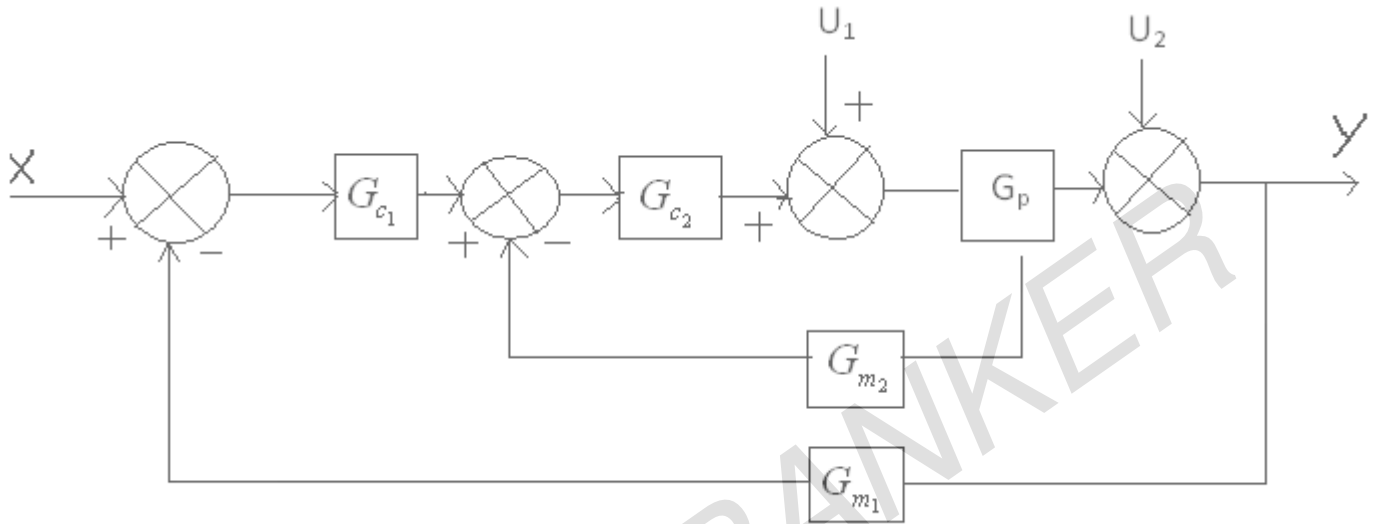

Figure 2:
7. The following block diagram figure 2 corresponds to a control system with two loops. Reduce the block diagram to a simple one, such as that shown in figure 3, by identifying the approximate transfer functions  $G_1, G_2$  and  $G_3$ . [16]